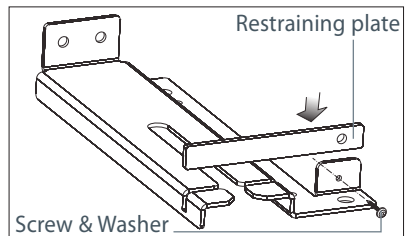

Fig. 6 Fixing the restraining plate
- 5 If fitted, remove the kickstrip (see 'Levelling the cooker'). Fix the restraining plate by sliding it into place and securing it with the fixing screw and washer supplied. See Fig. 6.